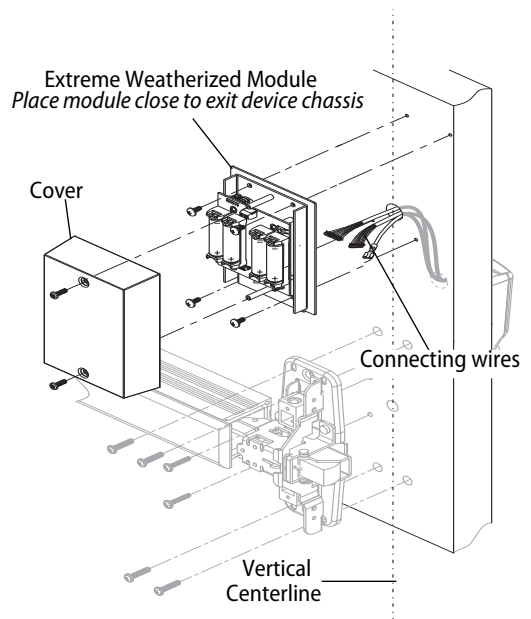

Figure 11 Installing the Extreme Weather module
- 3 Attach inside Extreme Weather module and cover as shown in Figure 11.